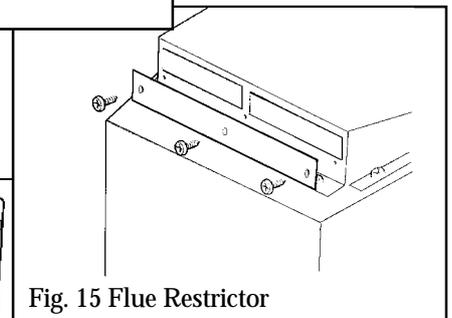

Fig. 15 Flue Restrictor
6.6 This appliance is supplied with a flue restrictor for use where the flue draught is excessive. The restrictor must NOT be fitted where a precast flue or a flue liner is used. For all other installations the restrictor should be fitted. There may however, be certain exceptional circumstances where fitting the restrictor causes the fire to fail the spillage test. In such cases the restrictor will have to be removed. After removal conduct the spillage check again. The restrictor is packed loose with the appliance and is fixed with three screws (See figure 15).